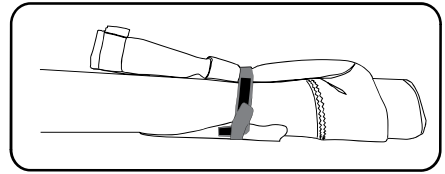

Figure 10: After rolling, tuck the pad, then wrap with the tack strap and secure the velcro.
- After rolling the sail, tuck the pad so it rests along the sail, wrap the tack strap around the pad and the sail, then attach the velcro (fig. 10).